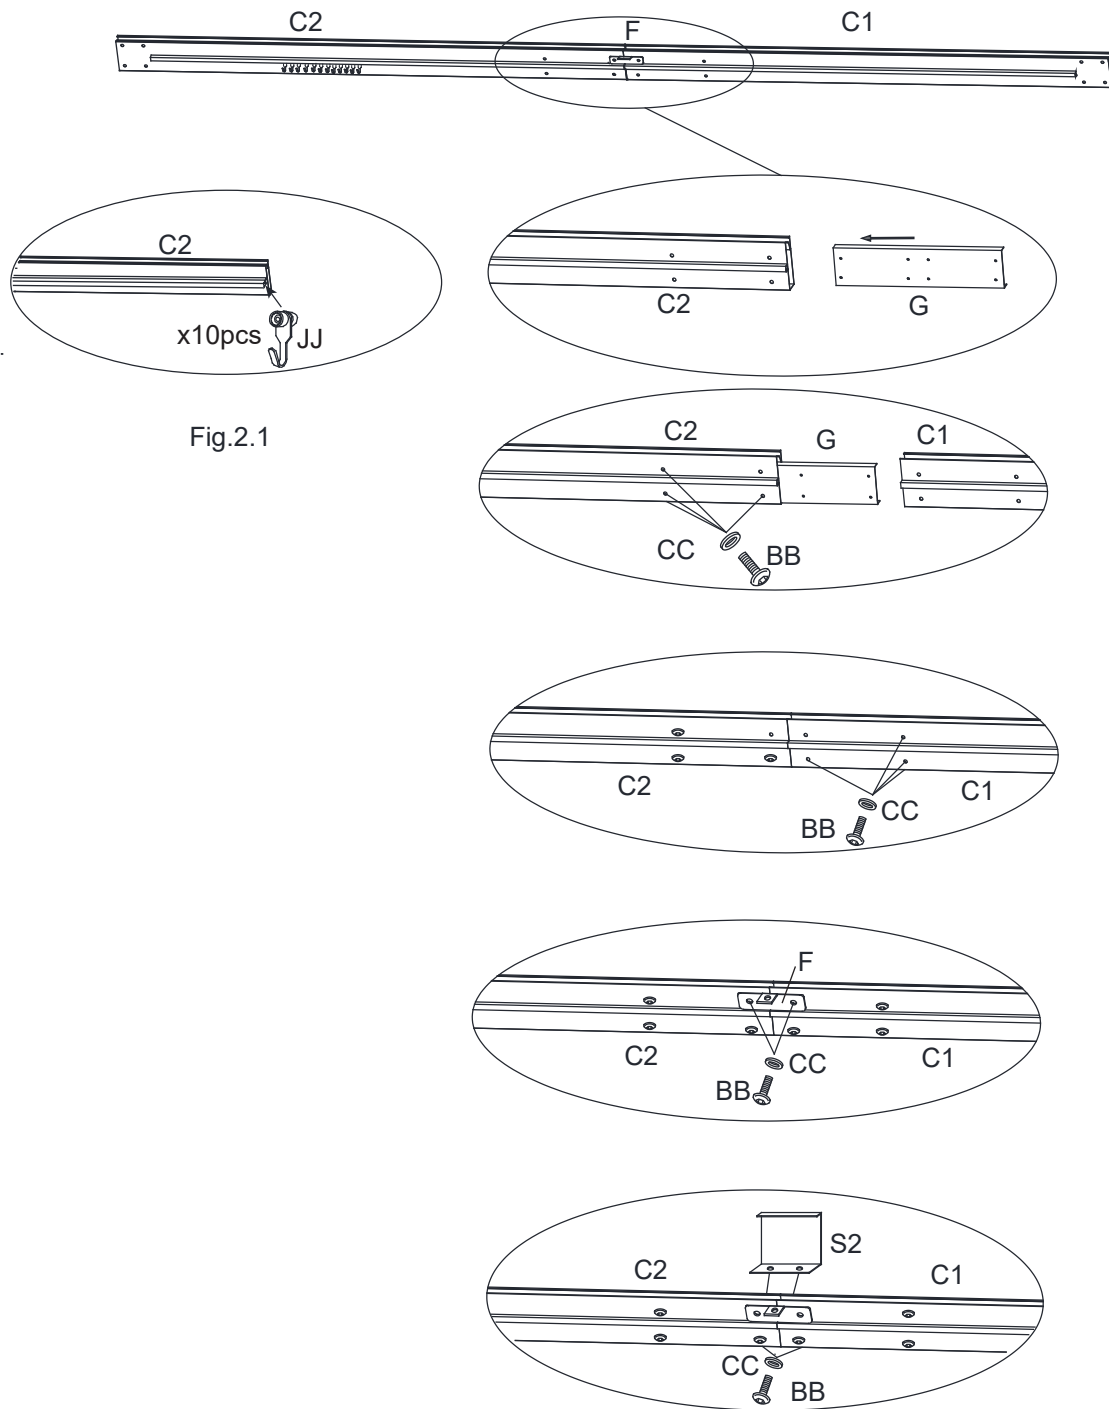

Fig.2.2
2.2. Connect the Short Left Lintel (C1) with the Right Lintel (C2) through the Lintel Connector - Large (G) by bolt (BB) and washer (CC), then connect the Connector (F) to the joint of the lintel (C1/C2) by bolt (BB) and washer (CC), put the Lintel Cover - Center (S2) onto the joint of the two lintels with bolt (BB) and washer (CC), pay attention to install the screws based on the orders shown in the illustration. See.Fig.2.2